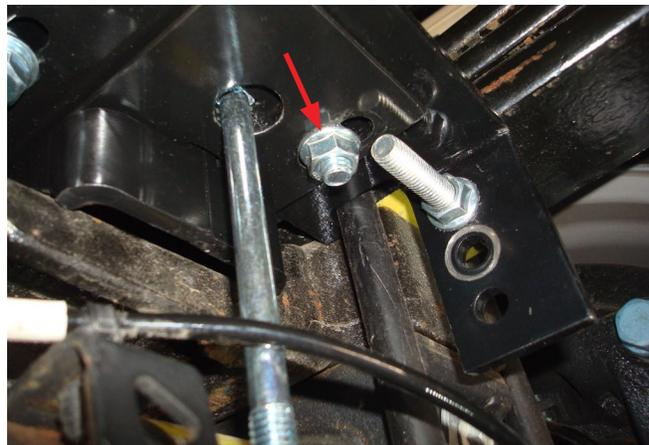

Fig. 39
11. Torque the nut (U) to 32 lb.-ft. (43Nm) on both sides (Fig. 39).